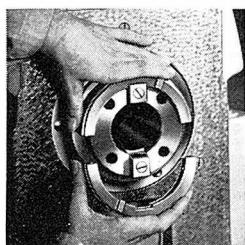

Figure 72A
1. Center the split ring (Figure 72A) on the machine spindle nose driving keys and at the same time fit them in the groove around the spindle.